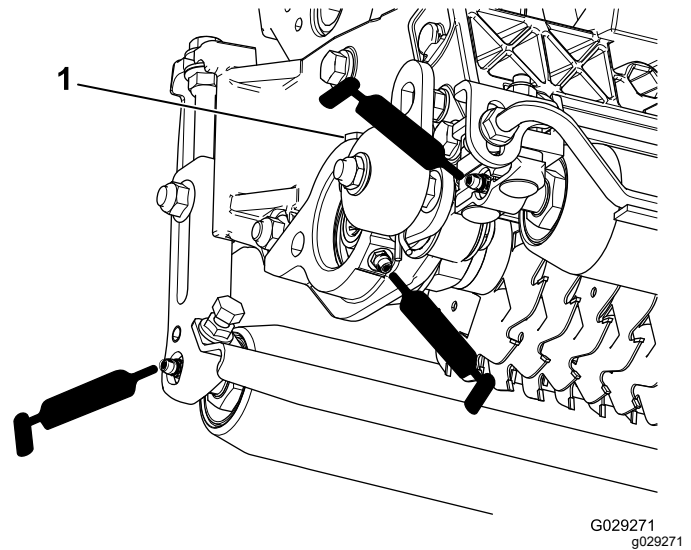

Figure 13
Each verticutter has 5 grease fittings (Figure 13) that must be lubricated weekly with No. 2 lithium grease.
2. Apply grease until you see clean grease coming out of the roller seals and the bearing relief valve (Figure 13).